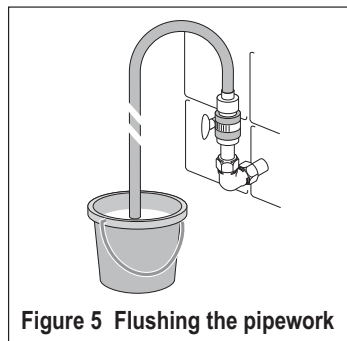

Figure 5 Flushing the pipework
- 3.17 Before making the final water connections to the shower heater, the pipe-work **MUST BE FLUSHED THOROUGHLY** to remove brick dust, swarf etc. which could severely damage the shower itself - see Fig. 5.
- 5.15 **It is essential to flush the pipe in order to clear debris, particles or solder prior to connecting to the shower - see Fig.5.**